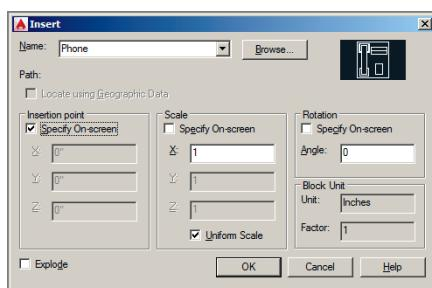

FIGURE 7.19 Inserting a phone block
3. Type **I** (for Insert), and press Enter. Select Phone in the Name drop-down list. Deselect Specify On-Screen in the Scale and Rotation sections of the Insert dialog box and click OK (see Figure 7.19).